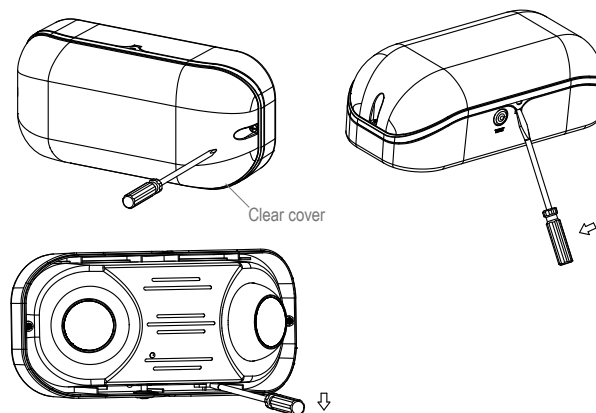

Fig 1
Open Fixture (see Fig. 1)
- Use Philips screwdriver to loosen 2 screws per Fig 1